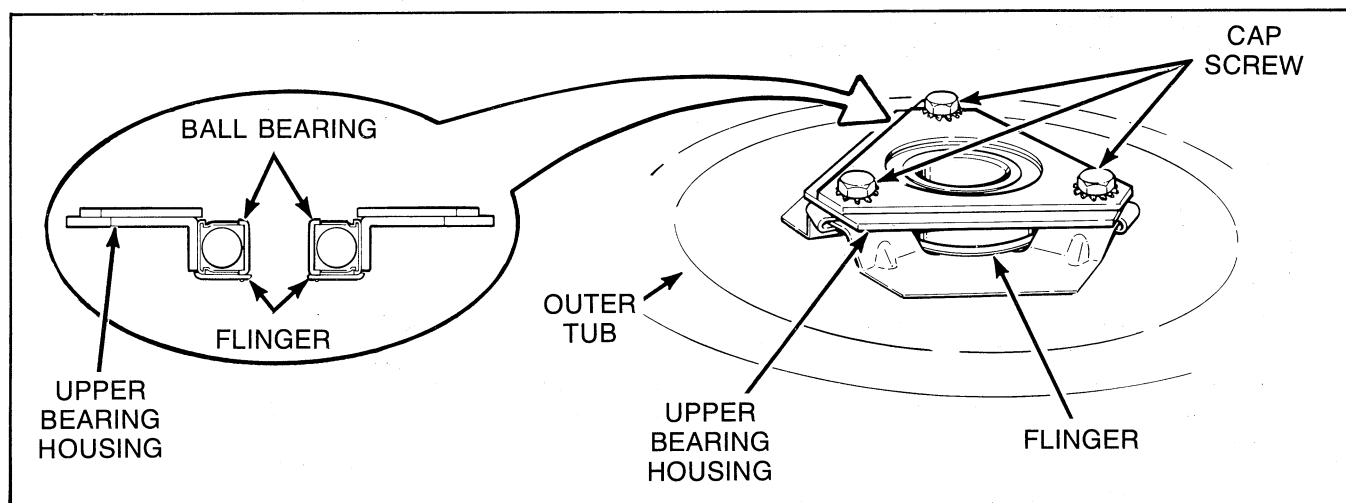

Figure 37
- Remove three capscrews holding upper bearing and housing to bottom of outer tub, *Figure 37*.
NOTE: Replace bearing and housing as an assembly, and be sure flinger is properly positioned between the outer tub and bearing assembly, *Figure 37*.